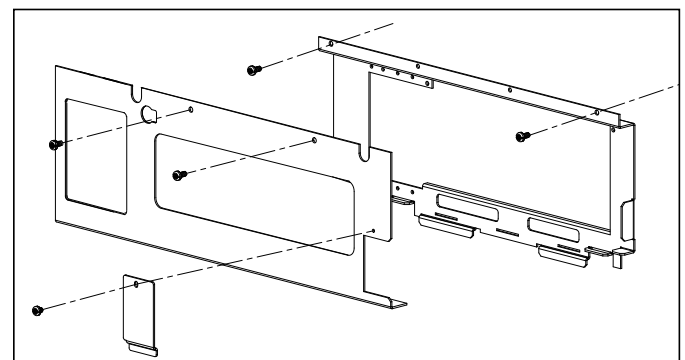

Figure 5. PureLink Power Center Bezel Plate
3. Remove the top two (2) middle screws that secure the bezel cover plate to the power center. Remove the cover plate. See Figure 5.
6. Remove the two (2) screws that secure the AquaLink RS PCB then remove the PCB.
7. Remove the top two (2) outer screws and remove the support plate by pulling it up and out to detach it from the power center.